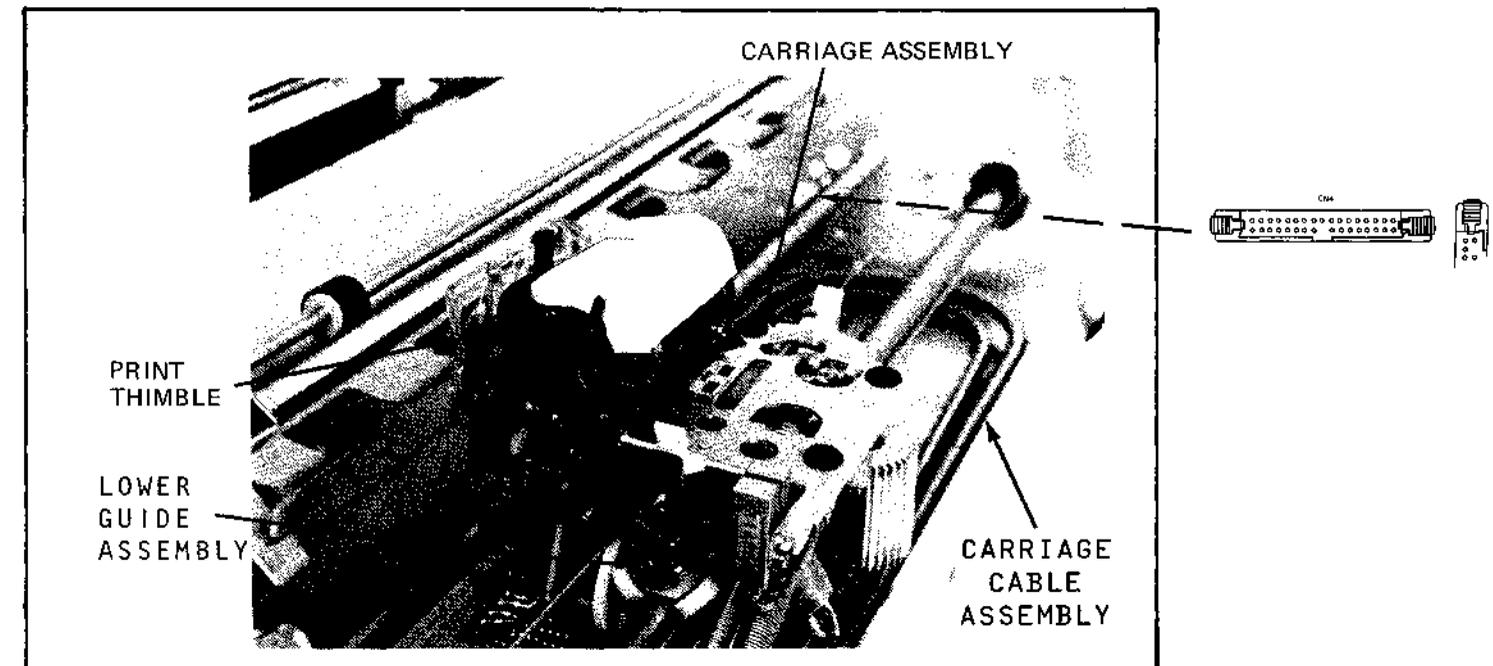

Figure 4-12 Carriage Location
#### 4.7.1 Disassembly (Figure 4-12)
- e. Disconnect the carriage assembly connector (CN4) from the mother board. (Refer to Figure 4-12.)